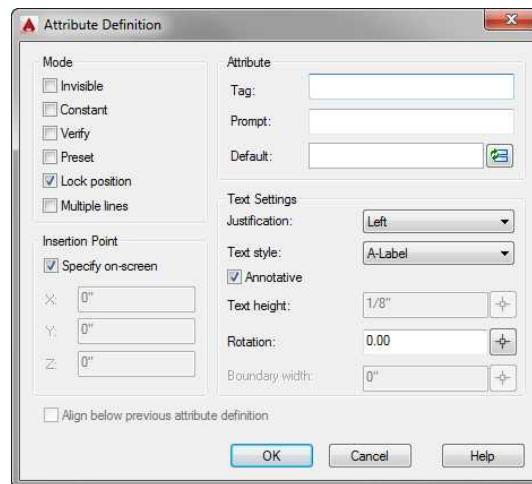

FIGURE 9.3 : The Attribute Definition dialog box
12. Start the ATTDEF command by clicking the Define Attributes button on the Insert tab ➤ Block Definition panel. The Attribute Definition dialog box opens (see Figure 9.3).